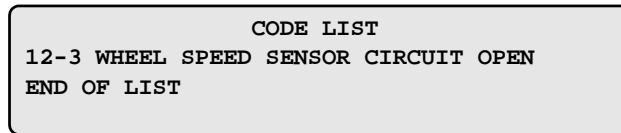

Figure 4-35 Typical ABS codes message
3. The Code List screen appears (Figure 4-35)